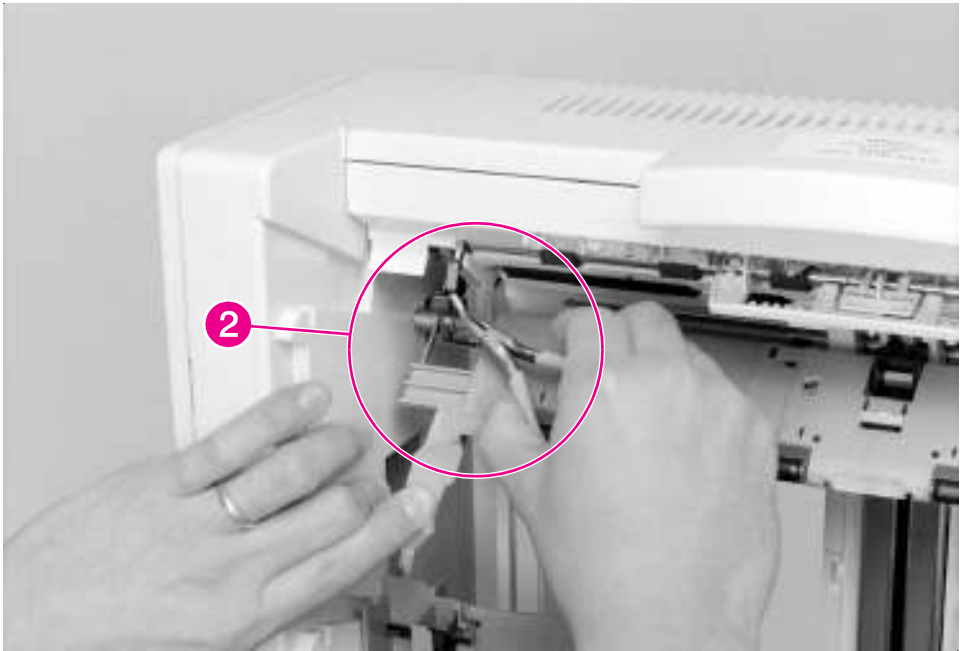

Figure 6-155 8-bin Mailbox Flipper Assembly (2 of 3)
- 4 Hold down the Jam Access Door while unplugging the ground wire that runs from the Input Paper Guide to the Flipper Motor (Figure 6-155, callout 2).
- 1 Hold down the Jam Access Door to reconnect the ground wire to the Flipper Motor (Figure 6-155, callout 2).